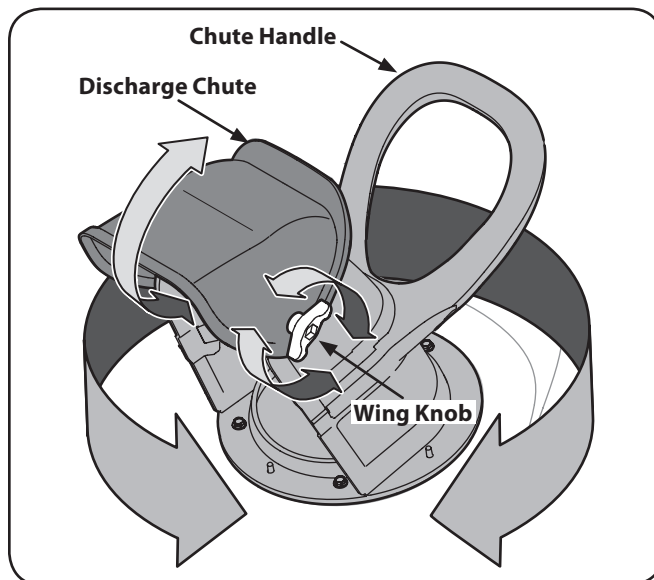

Figure 5-1
1. Rotate the discharge chute to the left or right using the chute handle. See Figure 5-1.
2. To adjust the pitch, loosen the wing knob on the side of the discharge chute and pivot the discharge chute upward or downward. Retighten the knob once the desired position has been achieved. See Figure 5-1.